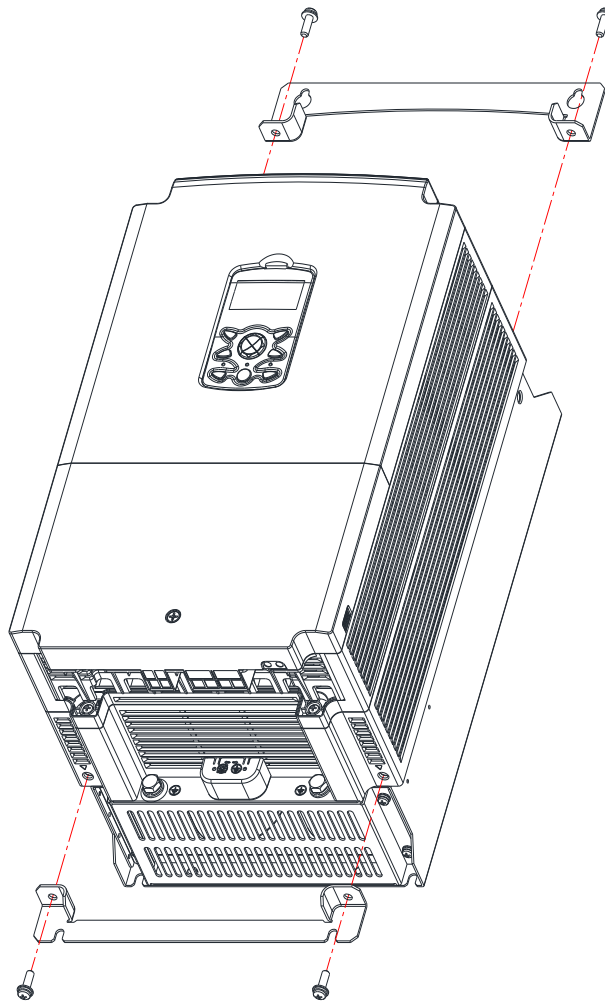

Figure 2. Install and Side Viewing
① Insert the Flange Option to fit on the product side Base fastening both sides positions as shown in the Figure 2.
② Using the included Bolt and tighten with the specific torque to prevent loose.